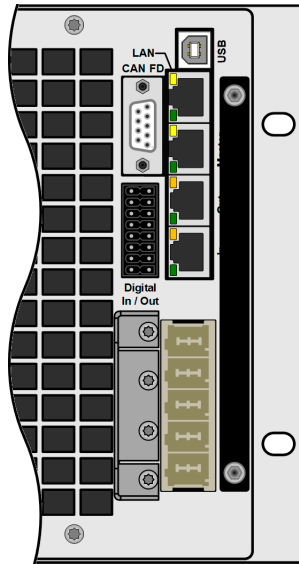

Figure 12 - Mounting position of the mounting bracket
2. Attach the mounting bracket and secure it with the temporarily removed screws (M3x8) and two additional screws (M3x8) and clamping discs supplied. See *Figure 12*.